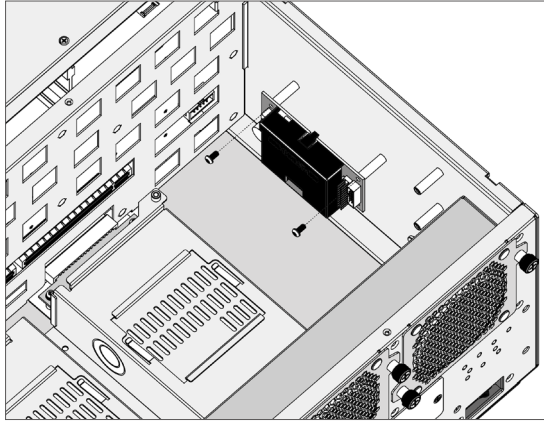

Figure B-9, Secure the Battery Module
2. After removing the cover, then secure the battery pack module (ARC-6120-BAT-12G, reference NO.1 in Figure B-1) on the right side within the enclosure (for ARC-7124), as shown in Figure B-9.